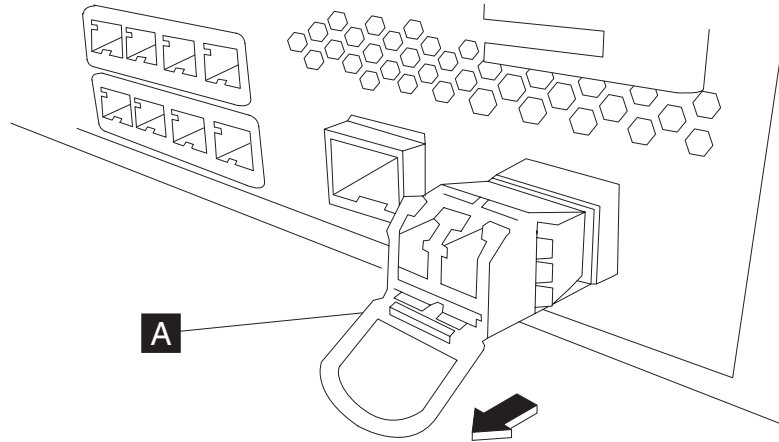

Figure 19. Removing the SFP+ transceiver
- Pull downward on the blue latch (**A**) on the front of the transceiver, as shown in Figure 19 on page 51.